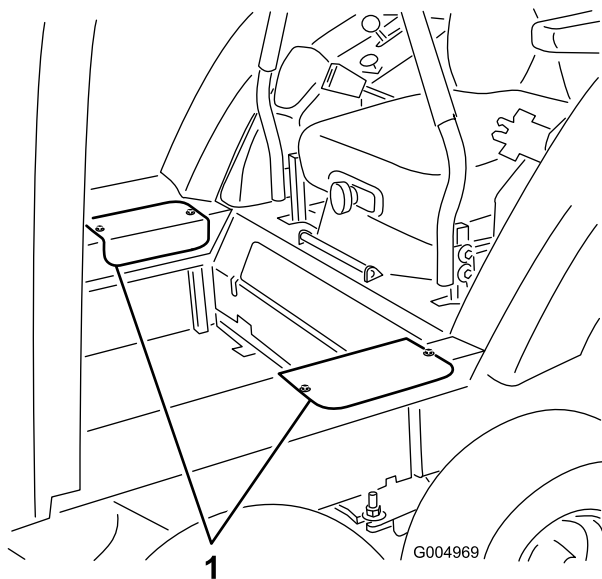

Figure 74
6. Remove the two screws securing each side access cover and remove the covers (Figure 74).